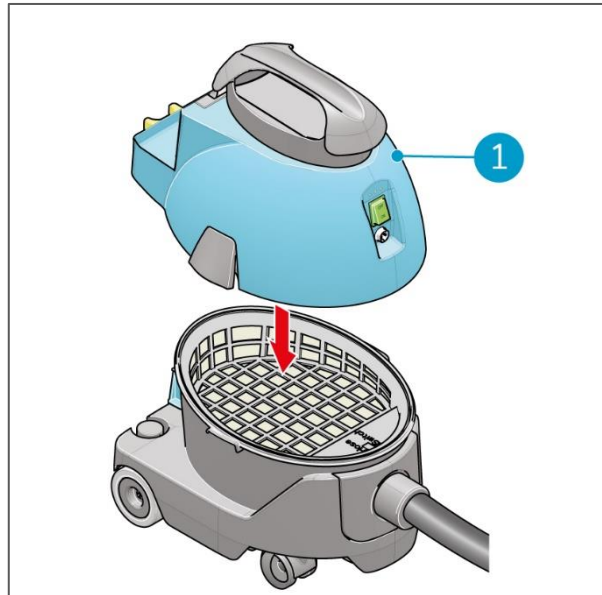

Figure 24
8. Place the head (Figure 24, pos 1) back on the can.